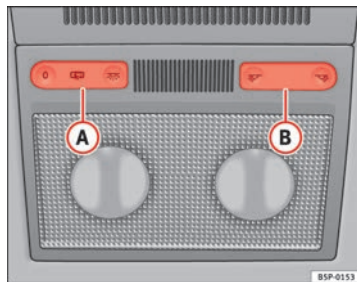
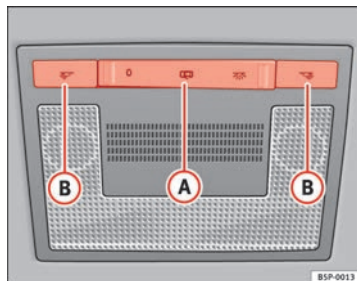

Fig. 80 Interior roof trim: front reading lights, type 1
Fig. 81 Interior roof trim: front reading lights, type 2
Press the corresponding button \Rightarrow Fig. 80 (B) and \Rightarrow Fig. 81 (B) to switch on the reading light.